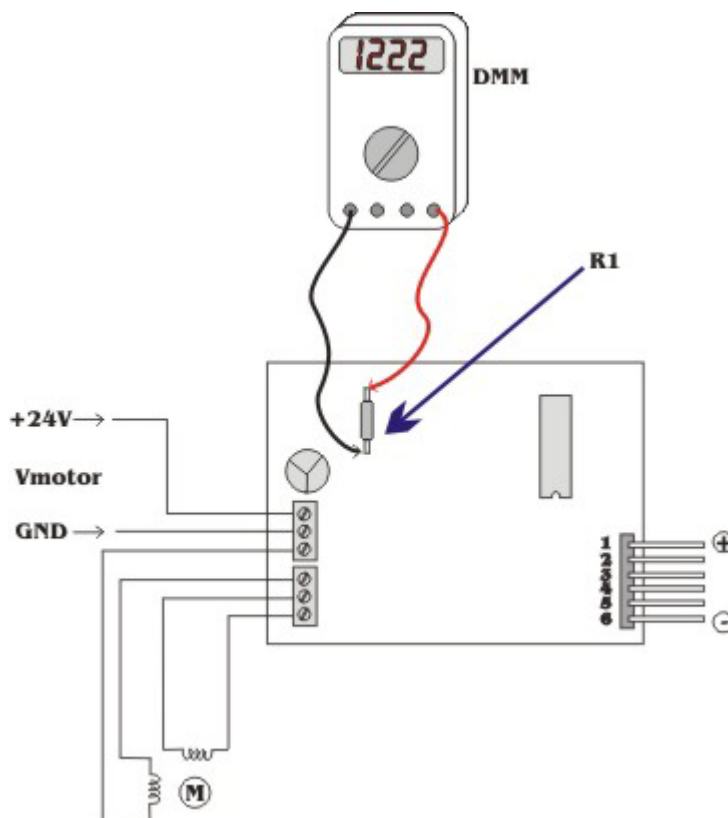

Figure 8. Connection setup for the initial drive current adjustment.
2. With power still OFF, connect the 5V and 24V DC power source to the logic and motor supply terminals respectively. The complete setup is shown in Figure 8.